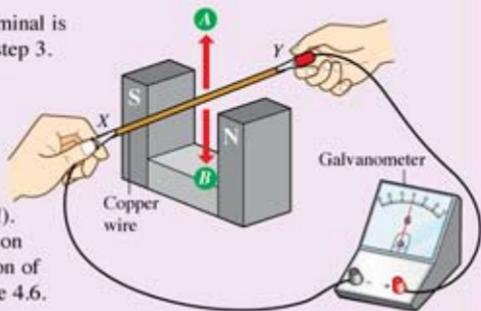

Figure 4.25
5. Remove the dry cell from the circuit and replace with a piece of thick copper wire. Place the thick copper wire between the pair of Magnadur magnets as shown in Figure 4.25.